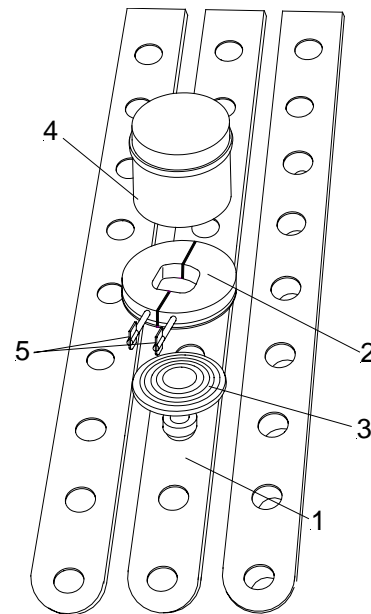
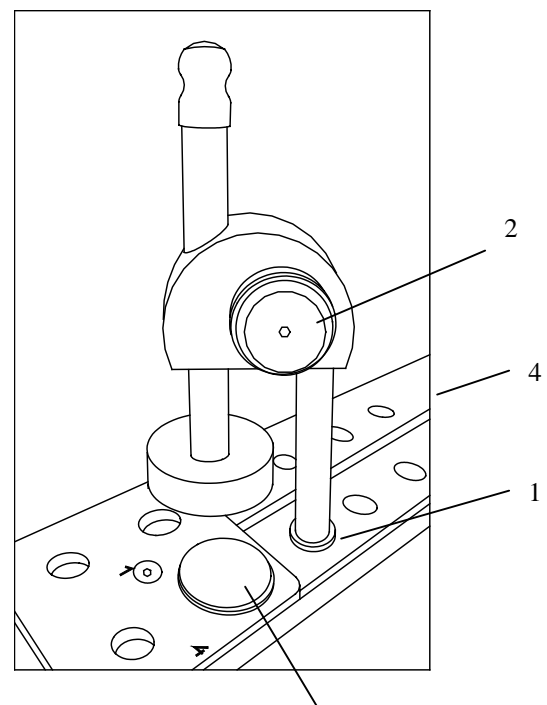

Fig. 14a
Fig. 14b
Two different heat extractors (fig. 14a and fig. 14b) are available:
### Heat extractor (fig. 14a):
- Insert the chuck (fig. 14a.3) into the fast freezing rail (fig. 14a.1).
- Then insert a cryo mold (fig. 14a.2) onto the chuck (30 or 40 mm).
- Fill freezing medium into the mold (fig. 14a.2) and place the specimen onto the freezing medium.
- The heat extractor (fig. 14a.4) is placed horizontally onto the specimen.
### Heat extractor (fig. 14b):
- Insert the heat extractor (fig. 14b) into the fast freezing rail (fig. 14b.1).
- To precool the heat extractor, turn the knob (fig. 14b.2) to lower the heat extractor onto the fast freezing plate (fig. 14b.4).
- Turn the knob (fig. 14b.2) to lower the heat extractor onto the specimen (fig. 14b.3).
- Further turn the knob (fig. 14b.2) to increase the pressure onto the specimen. Carefully observe this process to avoid a possible deformation of the specimen.
- To loosen the heat extractor, turn the knob (fig. 14b.2) in opposite direction.